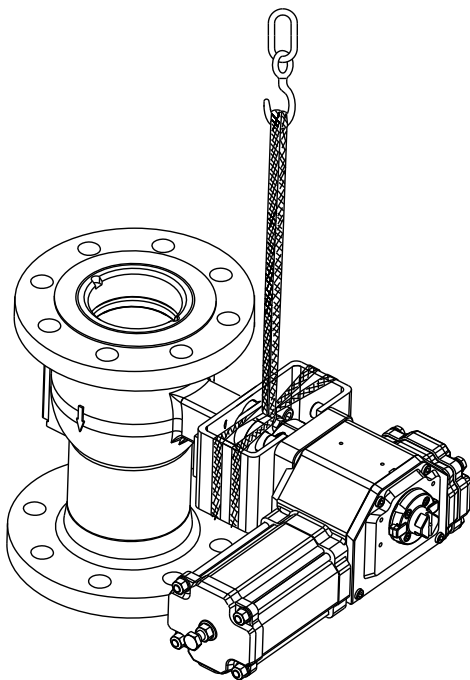

Fig.4-1 Lifting
- Use lifting straps to lift the actuator, when this is installed on the valve (→ Fig.4-1). The picture shows a standard situation. Please note that all possible situations that can occur cannot be covered in this lift instruction